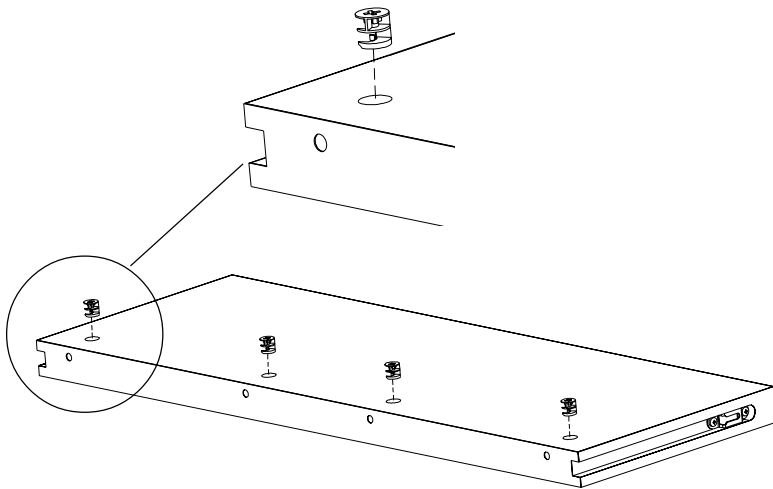

FIGURE 3
Lay shelf down with holes facing up as shown in **FIGURE 3**. Install minifix cams (DD) into each hole. Install bolts (EE) into the back panel as shown in **FIGURE 4**.